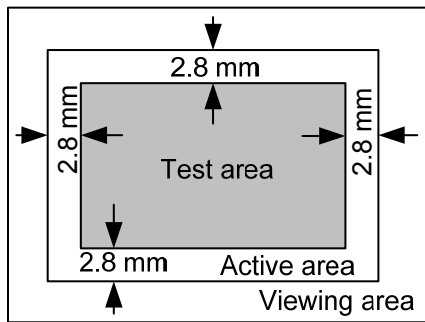

Fig. 11.1
- Test area is shown in Fig. 11.1